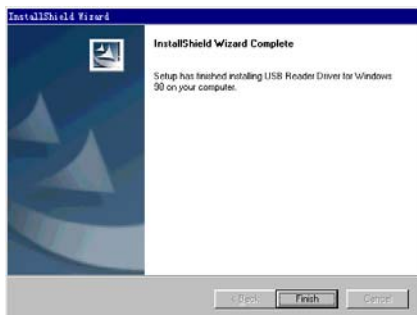

Fig 3-62
- When installation is finished, the screen will display the information as shown in Fig 3-62. Click "Finish" to exit.